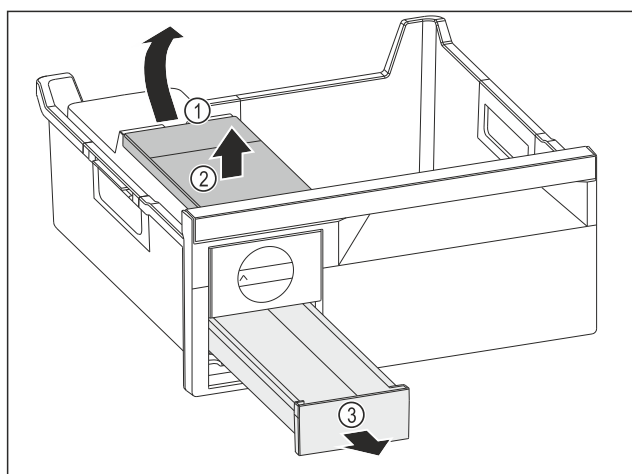

Fig. 170
- Removing the water tank: Lift the water tank by the recess Fig. 170 (1).
- Remove the water tank Fig. 170 (2) upwards.
- Remove the ice cube drawer Fig. 170 (3) to the front.